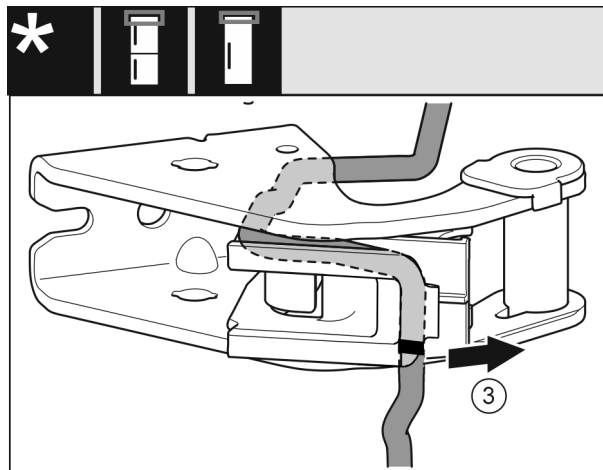

Fig. 15
- Remove the cable with the cable holder from the bearing bracket. Fig. 15 (3)